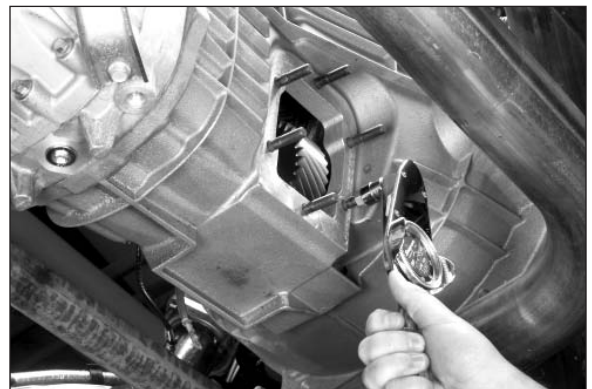

Fig. 3
4. Install the six studs until the shoulder of the stud is flush with the transmission mounting surface (Fig. 3).